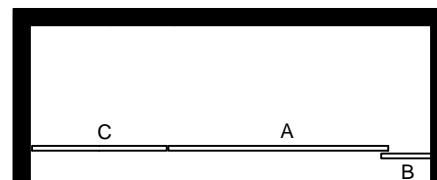

FIG. 1A (GLASS CONFIGURATION DIAGRAM)
- Prior to any installation, mark lines on the floor and wall for proper dry fit. Although the panels are parallel the fixed panel does not sit in alignment with the door and side panel. Proper planning is imperative for proper installation. [SEE FIG.1A]